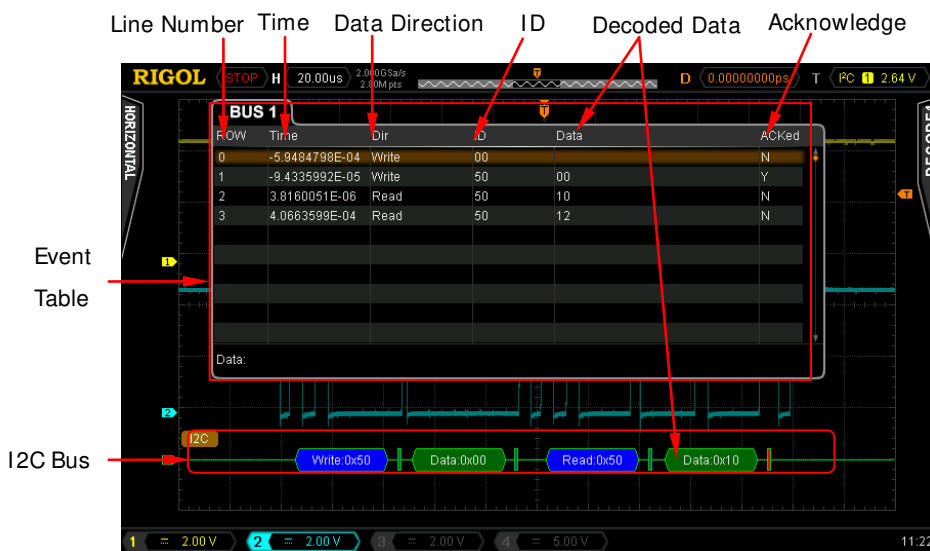

Figure 7-4 I2C Decoding
Press **BusStatus** to turn the Decode1 display on or off. You can also press **Decode1** to switch the current on/off status of the Decode1 display. When the bus display is turned on, the interface is as shown in Figure 7-4.
- 1) Press **Event Table** to turn on or off the event table. When the event table is turned on, the interface is as shown in Figure 7-4.